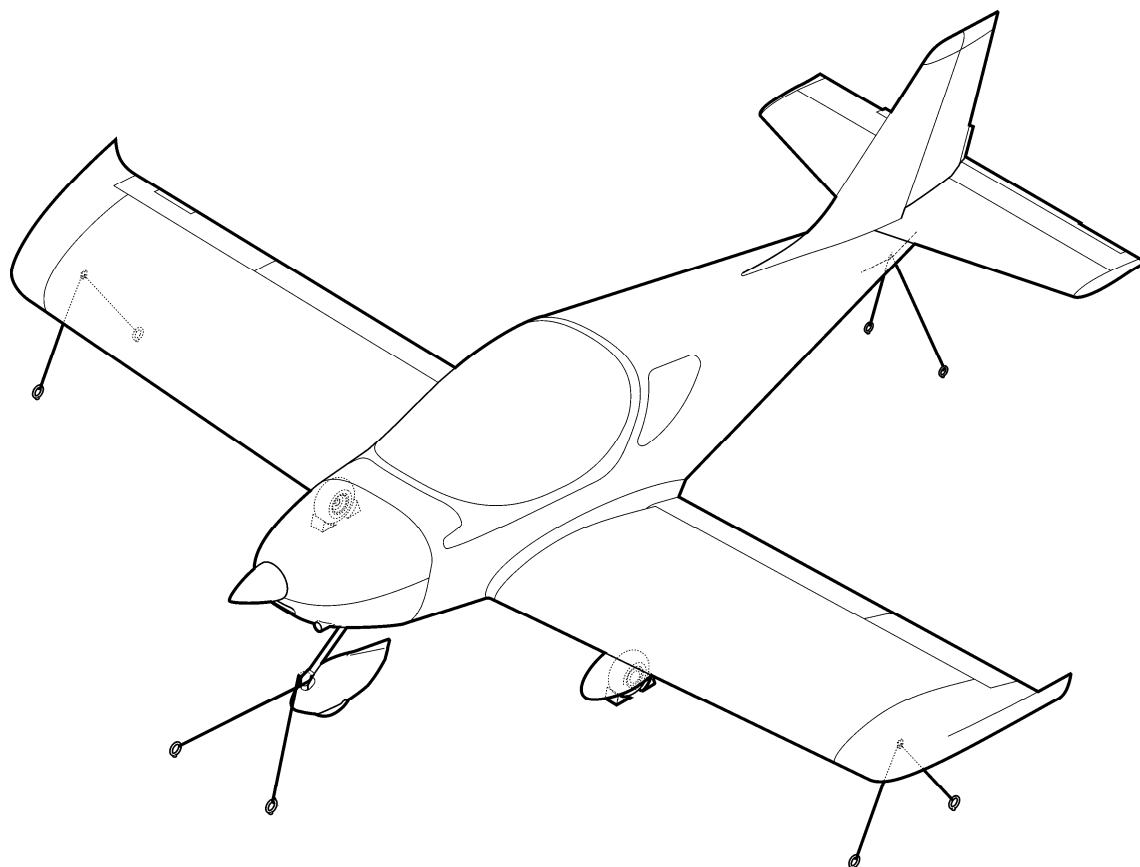

Fig. 14-2: Airplane anchoring
- anchor the airplane to the ground by means of cables pulled through the anchoring eyes on the lower side of the wings and on the rear part of fuselage; as necessary anchor the airplane at the nose landing gear leg (see Fig. 14-2).